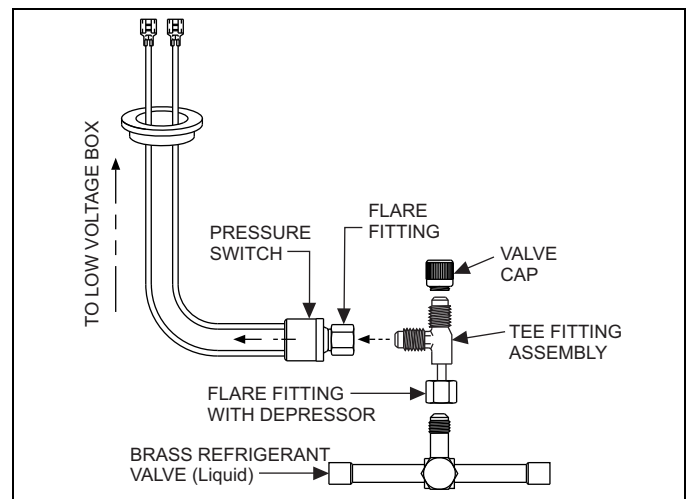

FIGURE 1: Pressure Switch Assembly
4. Attach the tee fitting and pressure switch to the liquid line base valve , as shown in Figure 1.